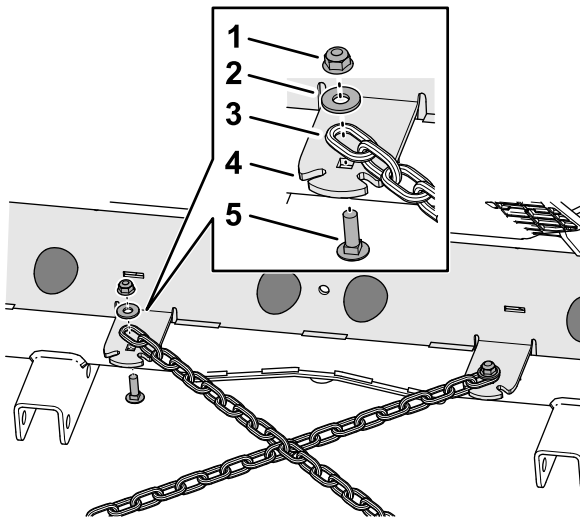

Figure 5
- Align the link at the end of a short drawbar chain to the hole in the chain tab of the rear frame plate (Figure 5).
- Assemble the chain to the chain tab with a carriage bolt (5/16 x 1 inch), washer (3/8 x 7/8 inch), and flange locknut (5/16 inch) as shown in Figure 5.